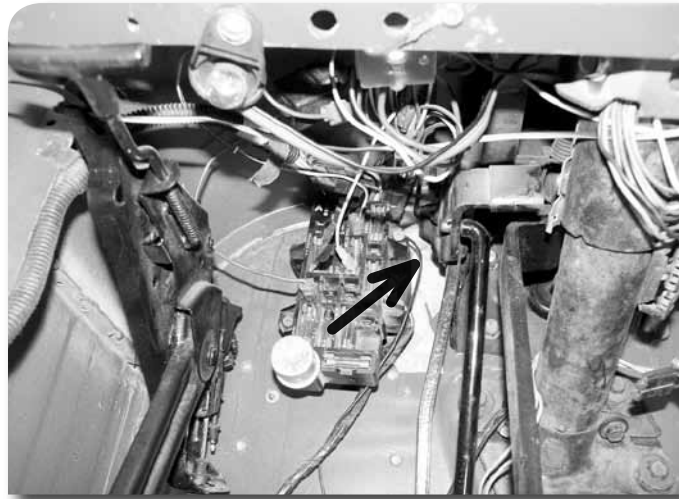

Figure 1
4. Disconnect clutch linkage inside of cab as shown – Fig 1.